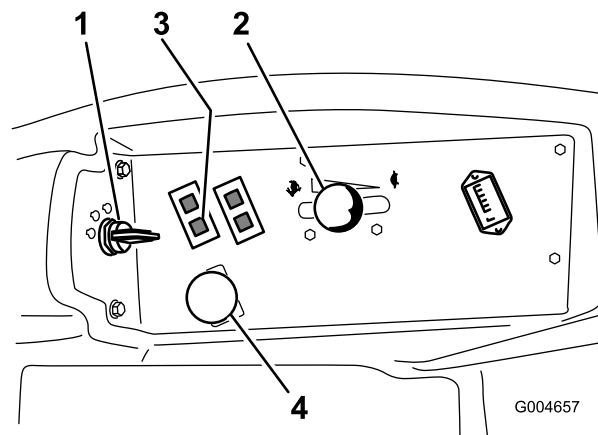

Figure 15
4. Move the PTO (power take off) switch to the off position (Figure 15).
5. Move the throttle lever midway between the Fast and Slow positions (Figure 15).